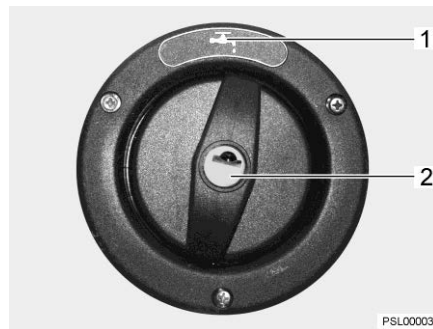
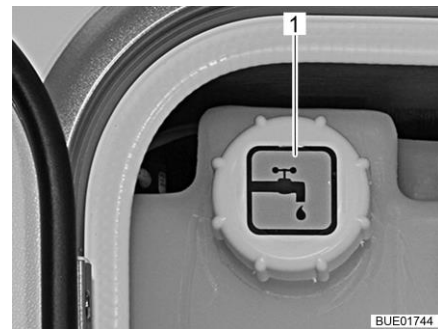

Fig. 248 Drinking water filler neck in the vehicle's side wall
Fig. 249 Drinking water filler neck in service unit (alternative)
The drinking water filler neck is marked with the symbol "☰" (Fig. 248,1 or Fig. 249,1) and is installed either in the vehicle's side wall or in the service unit.
- Insert key into locking cylinder (Fig. 248,2) and turn a quarter turn in an anticlockwise direction.